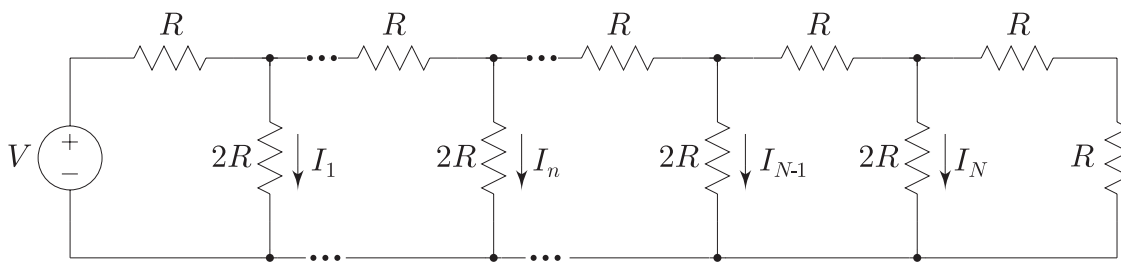

Figure 1.1: An R - $2R$ ladder network.
3. **R-2R Ladder Network.** Consider the circuit shown in Fig. 1.1. It is called an R - $2R$ ladder network, because if you were to turn it sideways it would look like a ladder. This type of circuit is commonly used to build digital-to-analog (D/A) converters to interface computers to the real world, as you will be considering in the postlab section. As a function of the applied voltage, V , and the unit resistance, R , what are the currents, I_1 through I_N , that flow through each of the $2R$ branches?
4. **Accurate 2:1 Resistor Ratios.** In order to obtain accurate current division at each branch in the R - $2R$ ladder network shown in Fig. 1.1, we need to have accurate 2:1 ratios between the various branches in the network. When designing integrated circuits, we obtain the most accurate ratios (for rational numbers) when we use an integral number of well-matched unit-sized devices. In this case, we would like to construct two effective resistances in a 2:1 ratio from three identical resistors, each with a resistance R . Come up with two different methods to accomplish this goal. In building an R - $2R$ ladder network, which method uses fewer unit resistors?
Consider the circuit shown in Fig. 1.3, called an R - $2R$ ladder network, which is a commonly used structure in building D/A and A/D converters. Derive an expression relating the current flowing through each of the $2R$ resistors to the reference voltage, V_{ref} and to the unit resistance, R . In the circuit shown in Fig. 1.3, each switch selectively steers one of these currents to the left or to the right based on the value of one of the binary digits in an N -bit binary number. Those currents that are steered to the left are combined to form an output current, I_{out} , flowing into ground. Derive an expression relating I_{out} to the values of the binary digits (i.e., b_{N-1}, \dots, b_0), the reference voltage (i.e., V_{ref}), and the unit resistance (i.e., R). Please carefully note the differences between Fig. 1.1 and Fig. 1.3. Your answers must be expressed using the indexing scheme shown in Fig. 1.3 in order to receive full credit.